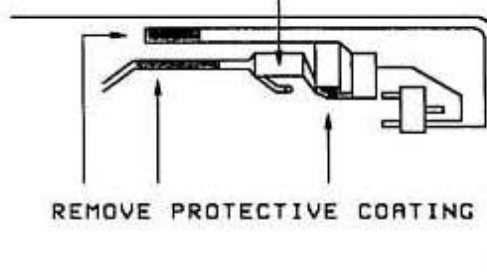

FIGURE 11
24. Remove C123. This chip capacitor is located in the corner of the board under the LCD assembly. Figure 11.
25. Remove the protective coating from the foils as shown in figure 11.